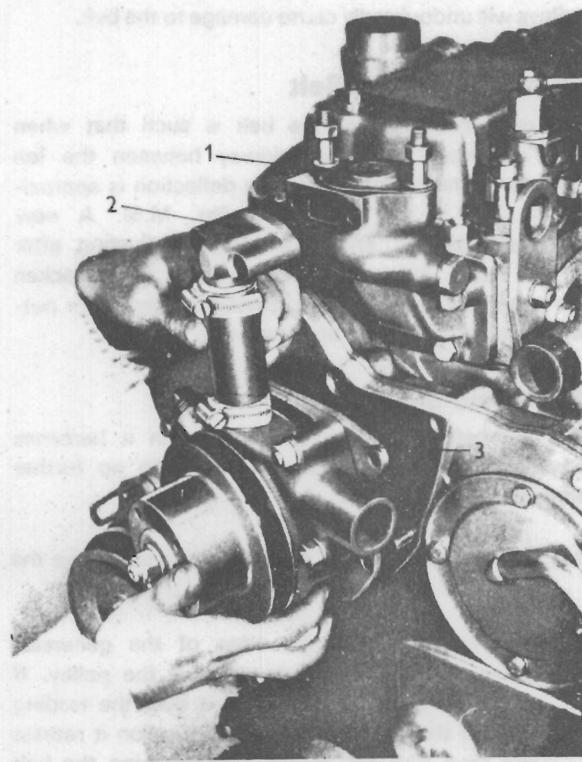

Fig. M.2.
4. Undo the one setscrew, and three nuts, securing the water pump to the timing case cover, and remove the pump complete with back plate and by-pass adaptor. See Fig. M.2.